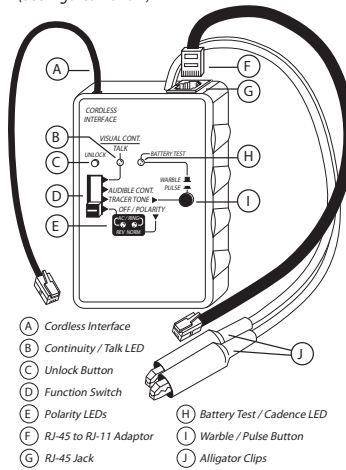

Figure 1
(See Figures 1 and 2)
8.1: FOX 2 Details (Refer to Figure 1)